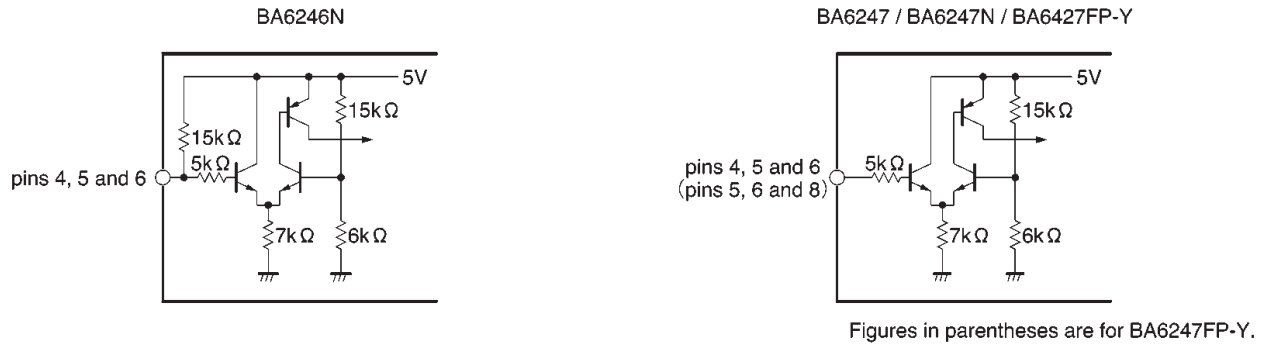

Fig.1
2) The input pins of the BA6246N are pulled up through a resistance of about 15kΩ (see Fig. 1). To secure the LOW level input, the interface to these pins should have a current-sink capability of at least 700μA (5V / 15kΩ × 2).